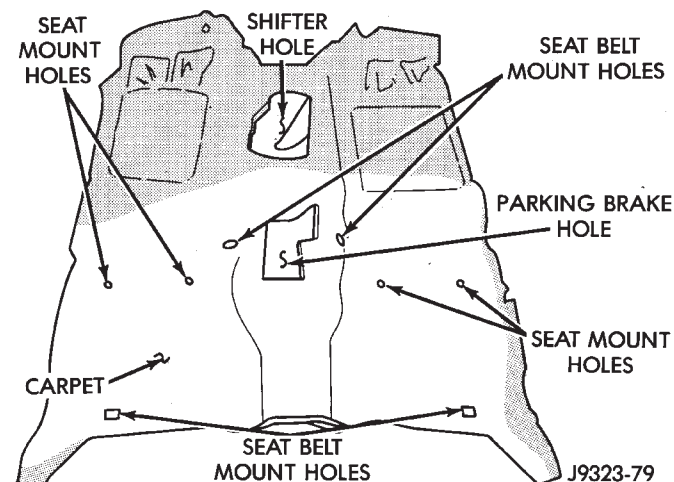

Fig. 52 Front Carpet and Mat
- (1) Remove lower B-pillar trim panels.
- (2) Remove front and rear seats (as applicable).
- (3) As necessary, remove trim panels and moldings.
- (4) Remove floor console.
- (5) Remove all other interfering components.
- (6) Remove carpet and mat from floor panel (Fig. 52).